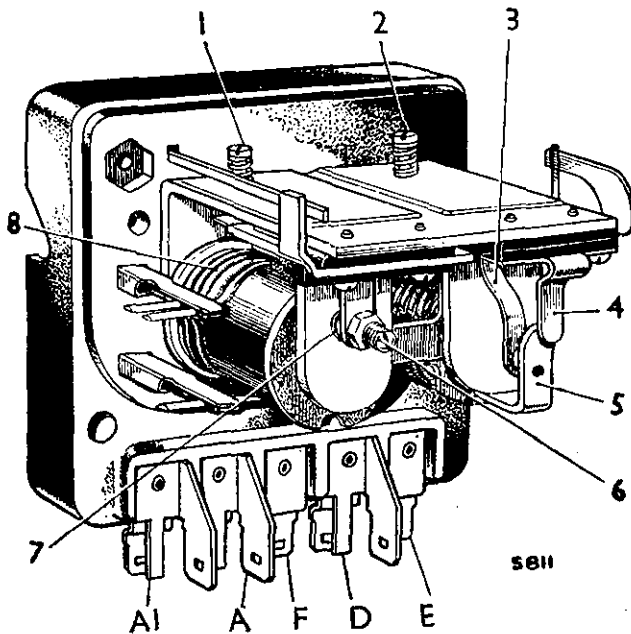

Fig. N.3
- (5) Turn the voltage adjustment screw (1) (Fig. N.3), in a clockwise direction to raise the voltage and anti-clockwise to lower it. Turn only a fraction of a turn at a time. This adjustment should be completed within 30 seconds or the settings will be affected by heat. Do not run the dynamo at a higher speed than is necessary for the adjustment to be made.